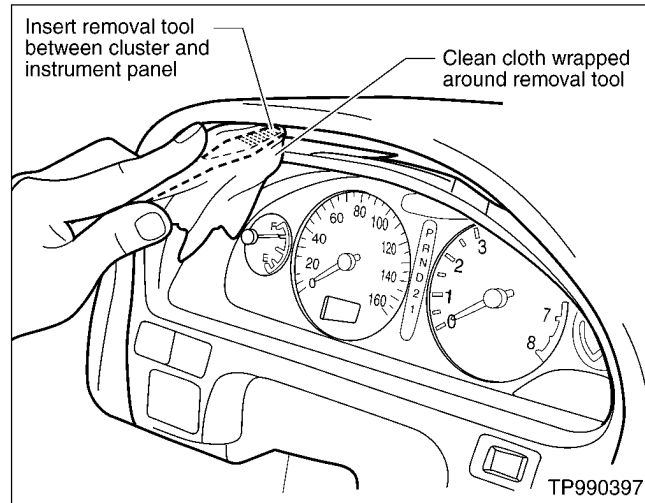

Figure 4
- C. Insert the cloth wrapped removal tool between the instrument cluster and the instrument panel (see Figure 4).